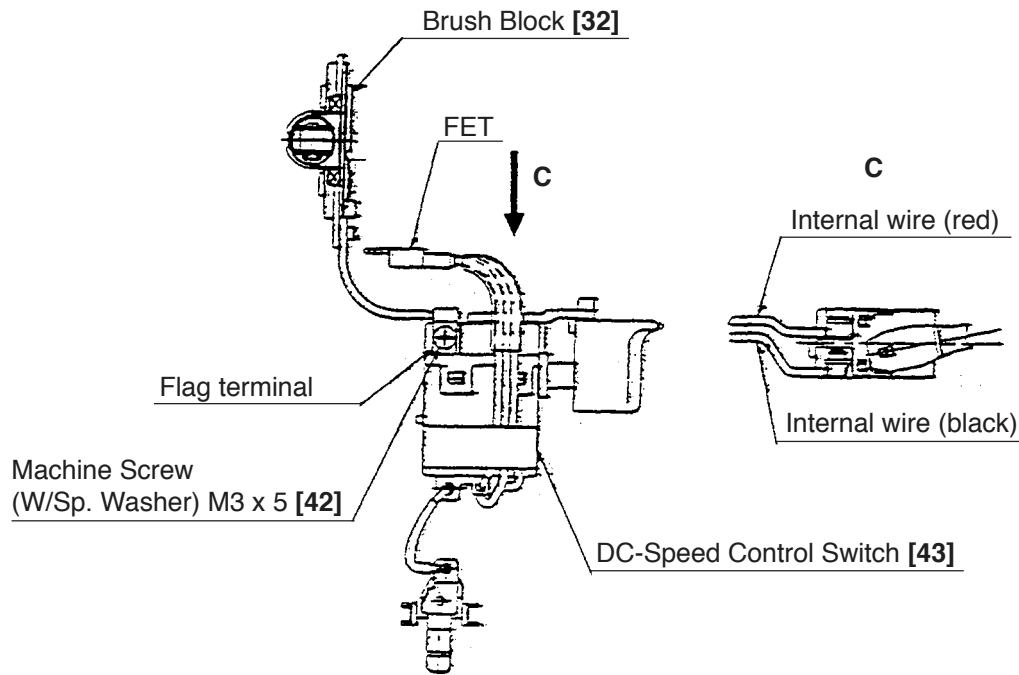

Fig. 7
(1) Reassembly of the housing assembly
- (a) Be sure to follow the wiring diagram (Fig. 7) for proper wiring.
- (b) When connecting the internal wires of the Brush Block [32] to the DC-Speed Control Switch [43], fasten them with the Machine Screws (W/Sp. Washer) M3 x 5 [42] paying attention to the direction of the flag terminal (Fig. 7).